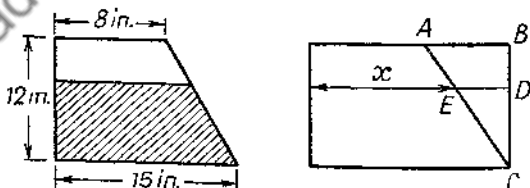

Fig. 53
(2) The tank shown in fig. 53 is filled to  $\frac{3}{5}$  of its height. Calculate the dimension marked  $x$ .